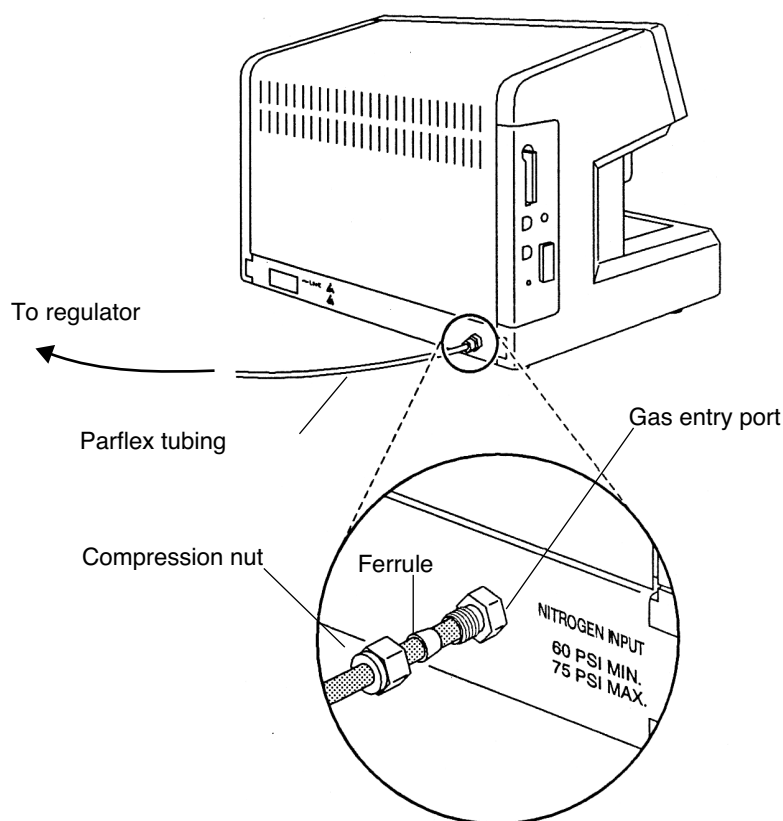

Figure 9. Attaching the Parflex tubing to the Synergy gas entry port
2. Remove the compression nut and ferrule at the gas entry port. They are covered by a protective plastic cap. Slide them on to the end of the tubing opposite the gas tank regulator (Figure 9).